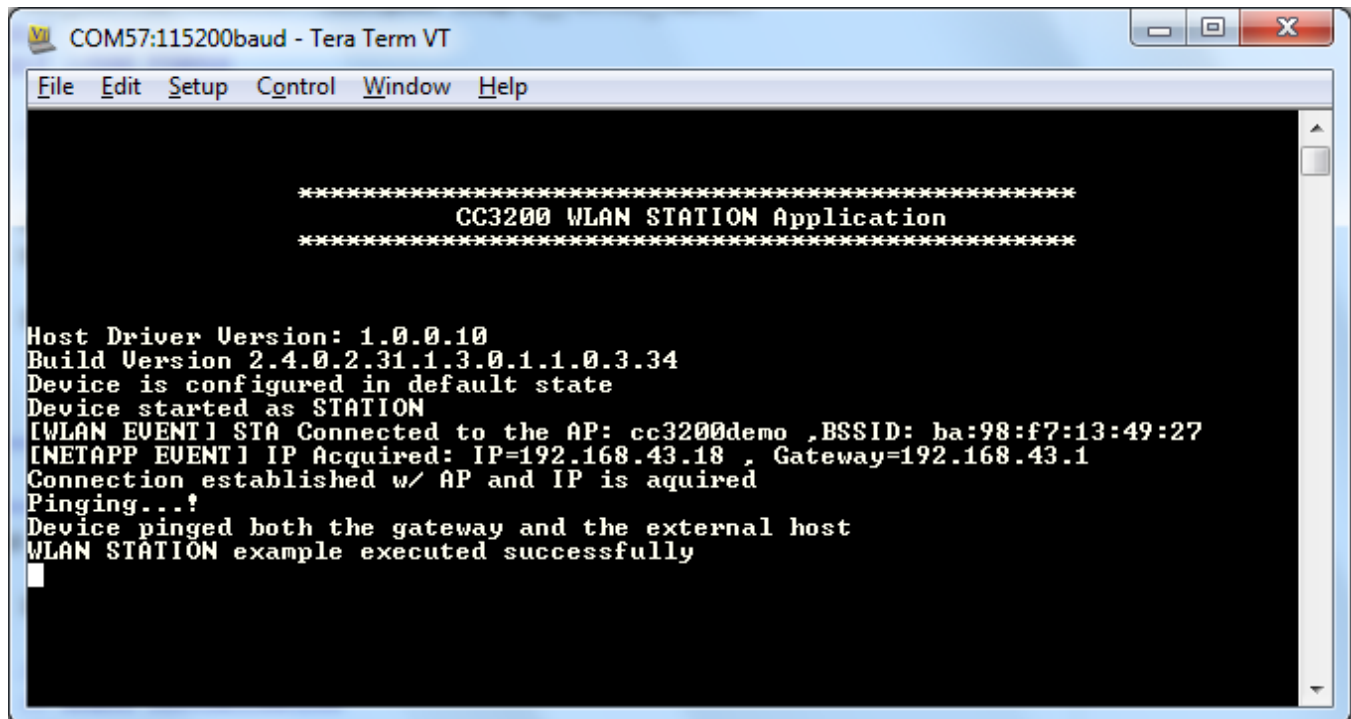

Figure 25. Tera Term VT
10. If the CC3200 successfully completes all steps, the serial output appears as shown in Figure 25.